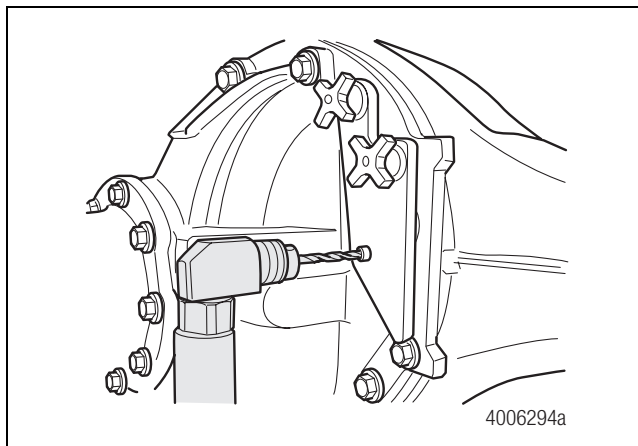

Figure 4
8. Install the size "L" drill bit provided in the tooling kit into the drill chuck. Insert the size "L" drill bit into the drill guide bushing. Lubricate the size "L" drill bit and guide bushing to reduce heat and prolong tool life. Figure 4.